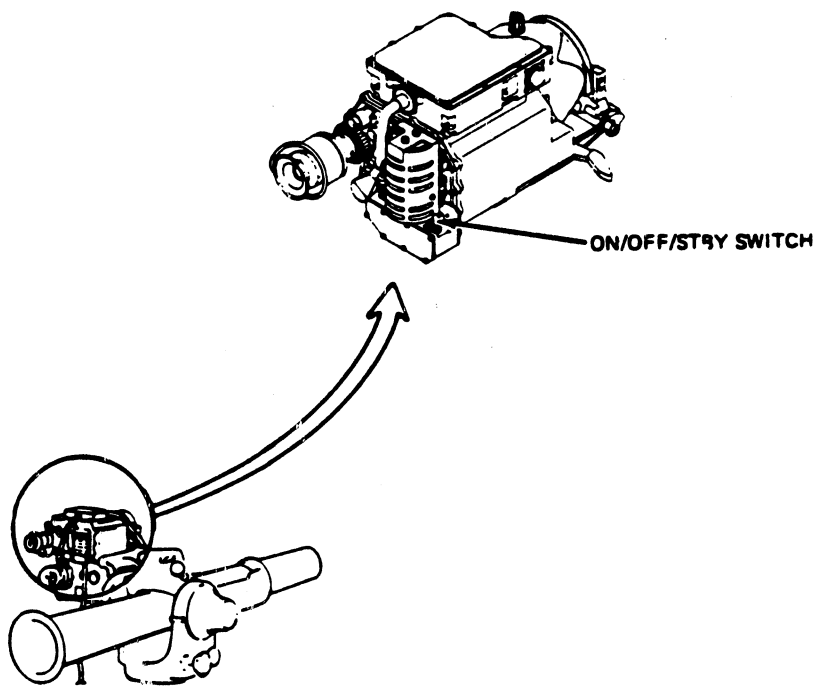

Fig 4-30. ON/OFF/STBY switch (night sight).
Step 5. Set the ON/OFF/STBY switch on the night sight to ON (fig 4-30).